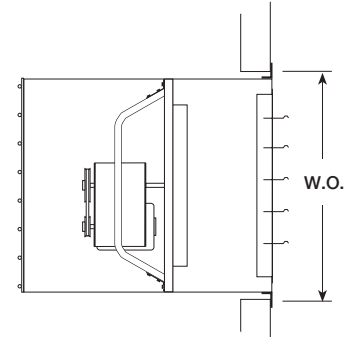
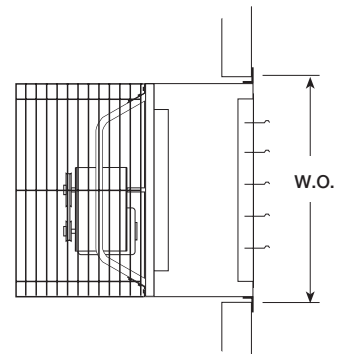
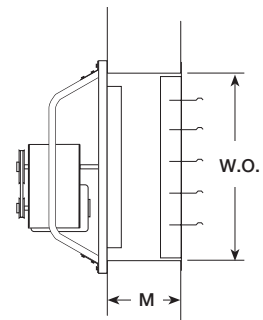

Fig. 1 - Wall Housing Installation
Fig. 2 - Wall Collar Installation
Fig. 3 - Direct to Wall Installation
Move fan to the desired location and determine the method by which the fan is to be mounted as shown in Fig. 1, Fig. 2 and Fig. 3. Optional wall mount housings (Fig. 1) and wall mount collars (Fig. 2) provide a convenient means of mounting sidewall fans while maintaining the proper distance between propeller and damper.
Fig. 1 and Fig. 2 show the wall opening (W.O.) required for installations with either a wall housing or collar.
Fig. 3 shows the recommended wall opening (W.O.) and the minimum distance (M) suggested between the fan and damper for direct to wall installations.